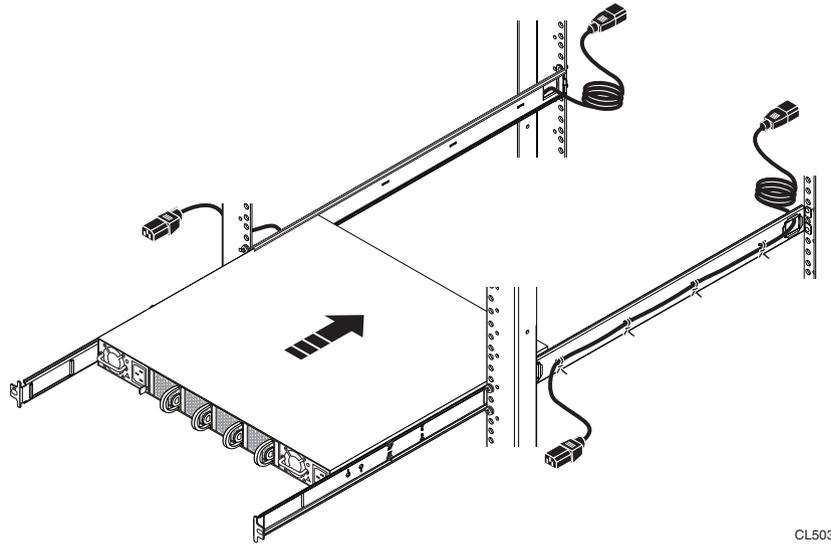

Figure 83 Installing the switch in the rack
1. Install the switch in the rack (Figure 83):